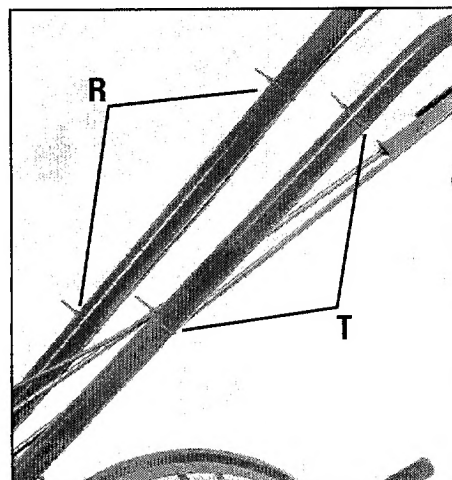

Figure 2-16: Attach throttle cable with plastic ties (R). Attach wheel gear cable with plastic ties (T).
6. Secure the throttle cable to the right-side handlebar with two plastic ties (R, Figure 2-16) located about two feet apart. The serrated side of the tie should be on the inside of the loop. Snip off any excess tie length with scissors.
5. Secure the cable to the left-side handlebar with two plastic ties (T, Figure 2-16) located about two feet apart. Snip off any excess tie length with scissors.